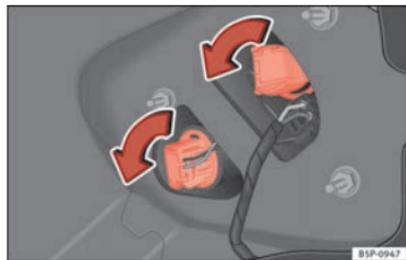

Fig. 196 Lights on vehicle body.
- Turn the bulb holder to the left ⇒ Fig. 196.